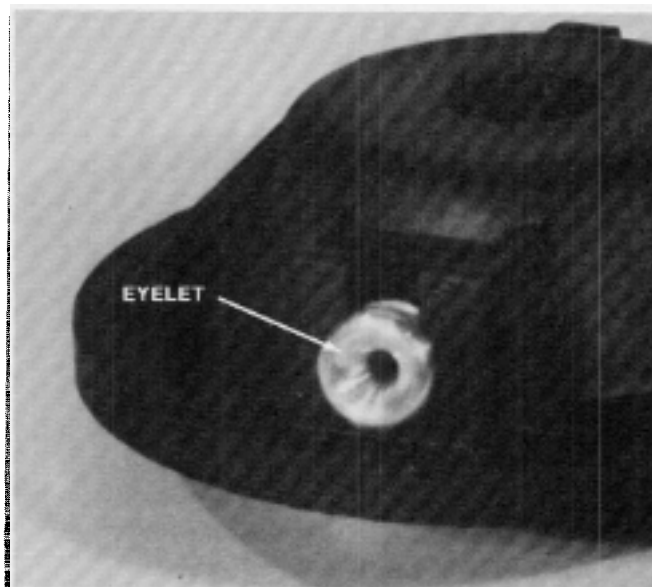

Figure 148
5. Inspect the spool for damage. Pay particular attention to the eyelets. Burrs in this area can lead to line breakage at the eyelet. See Figure 148.